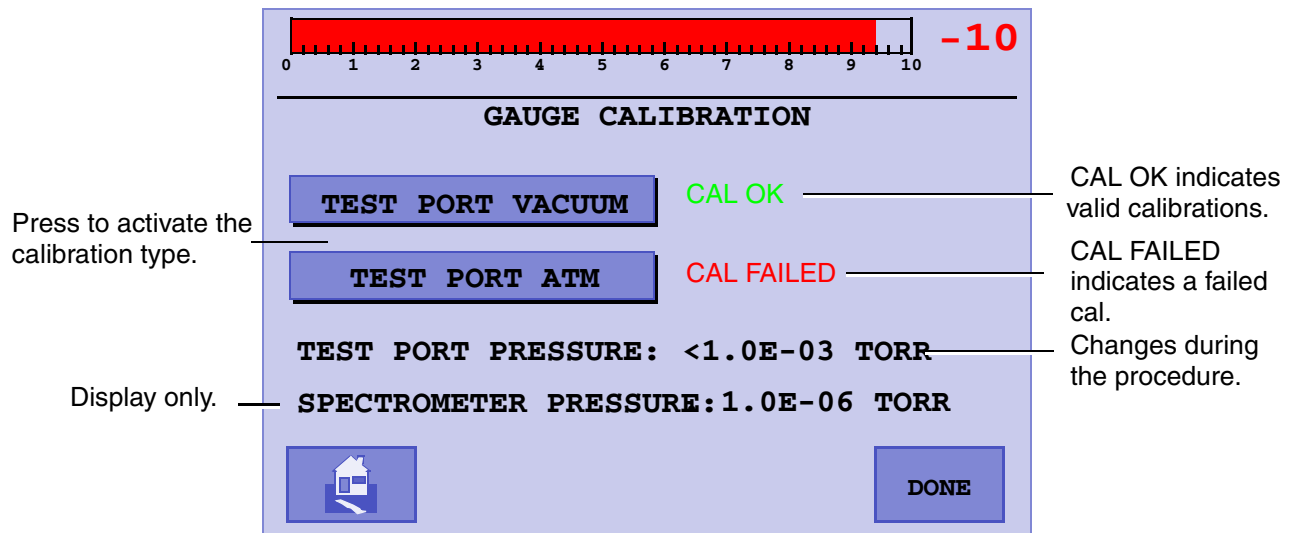

Figure 3-13 Gauge Calibration
- ❑ Press **Gauge Calibration** on the Set-Up screen and the Gauge Calibration screen appears (Figure 3-13).
2. Wait approximately ten seconds for the test port pressure to stabilize, then move to the Gauge Calibration screen (Figure 3-13 on page 3-17).